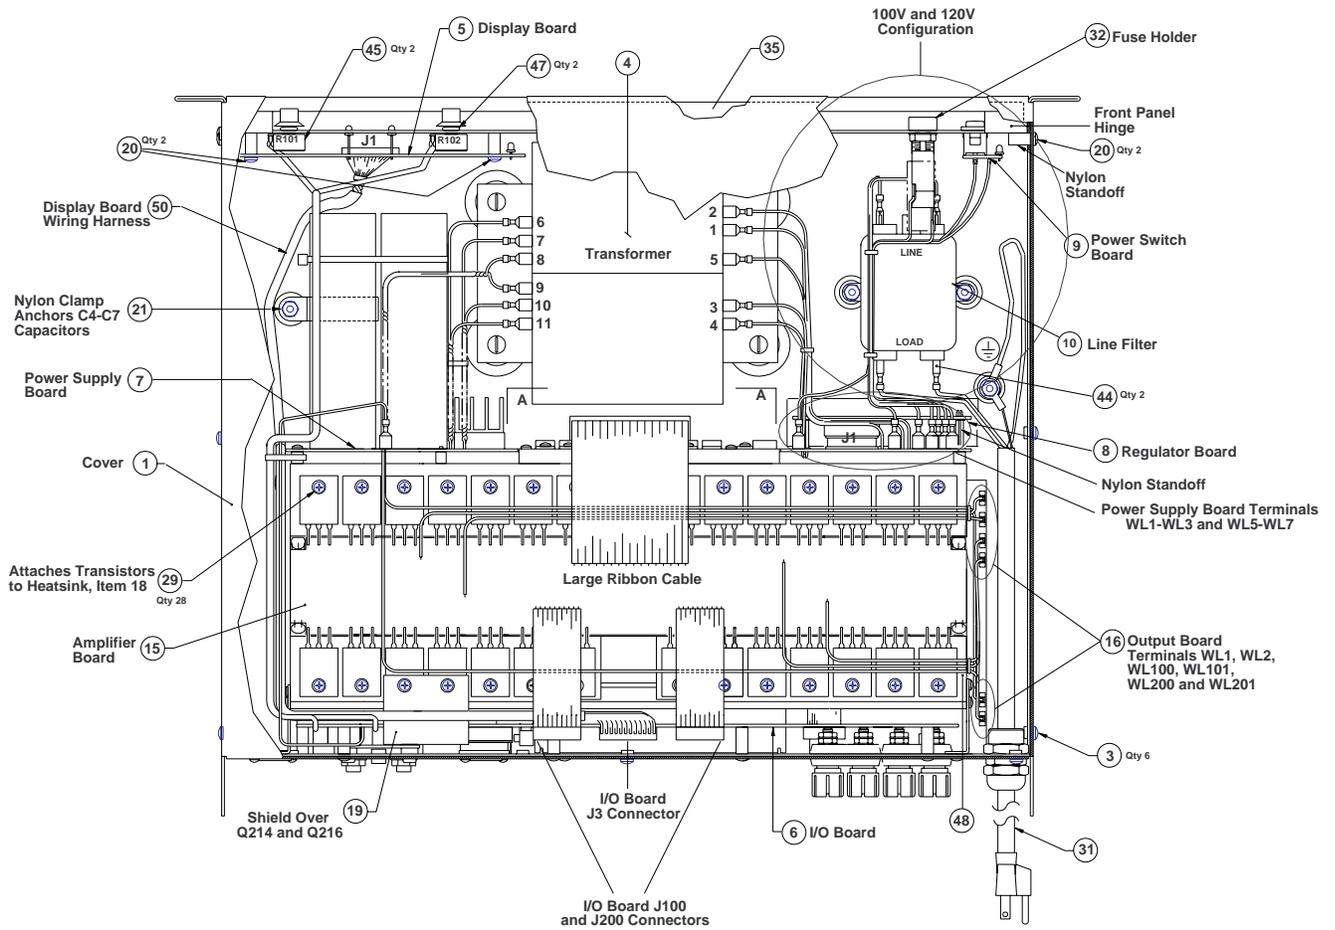

Figure 6. 1600VI and 1800VI Amplifier Assembly
Note: Refer to Figure 6 for the following procedures.
Note: Refer to Figures 6 and 7 for the following procedures.
14.2 Secure the amplifier board to the heatsink by tightening one screw (29) and washer to each of the power transistors. Torque the screws to 5.7 inch-pounds.
Note: Make sure the shield (19) is attached to Q214 and Q216 transistors. Refer to Figure 6 for shield alignment.
14.3 Connect the two ribbon cables J101 and J201 to I/O board (6) connectors, J100 and J200).